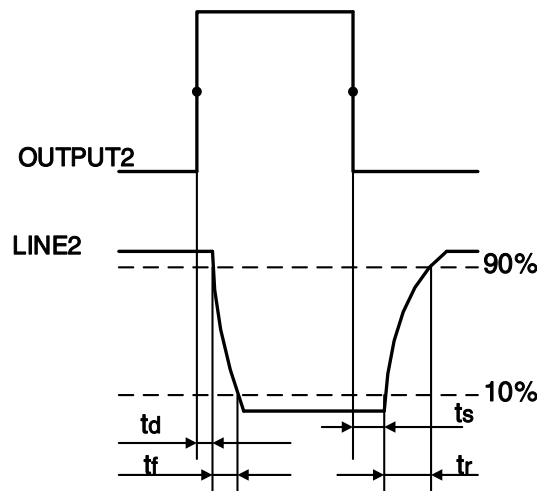

Figure 7-10 Parameter of Line2 output circuit
- Rising time delay = t_d+t_f : $<20\mu s$ ($0^\circ C\sim 45^\circ C$) (parameter description as shown in Figure 7-10)
- Falling time delay = t_s+t_r : $<20\mu s$ ($0^\circ C\sim 45^\circ C$) (parameter description as shown in Figure 7-10)